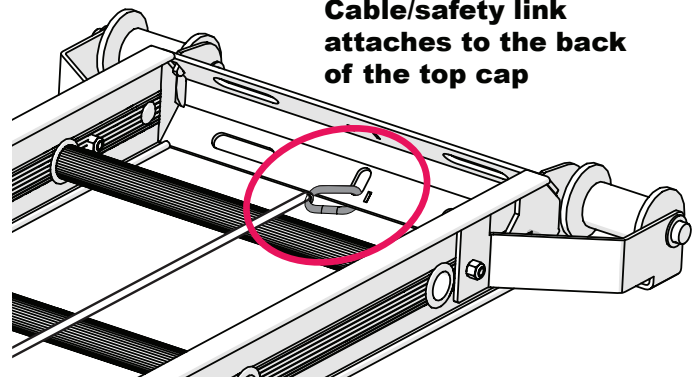

Fig. 7-3
- Attach the cable/safety link to the **back of the top cap as shown in Fig 7-3. IMPORTANT: The cable must lie on the front side of the tracks.**